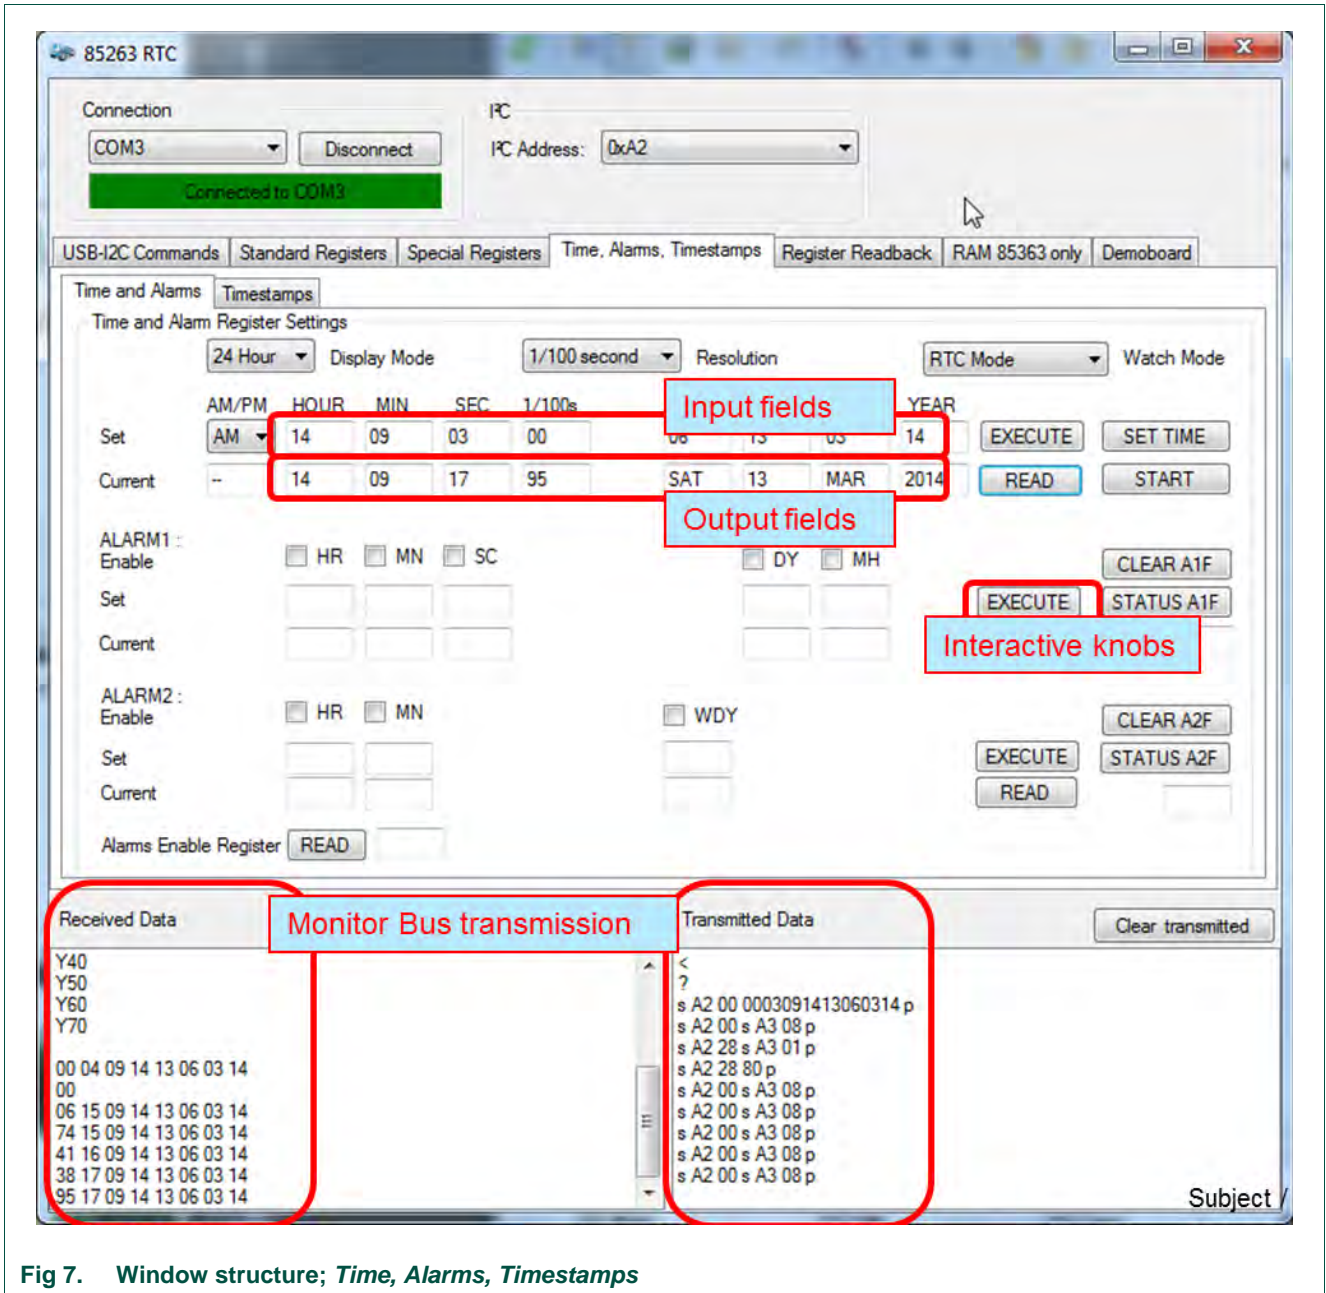
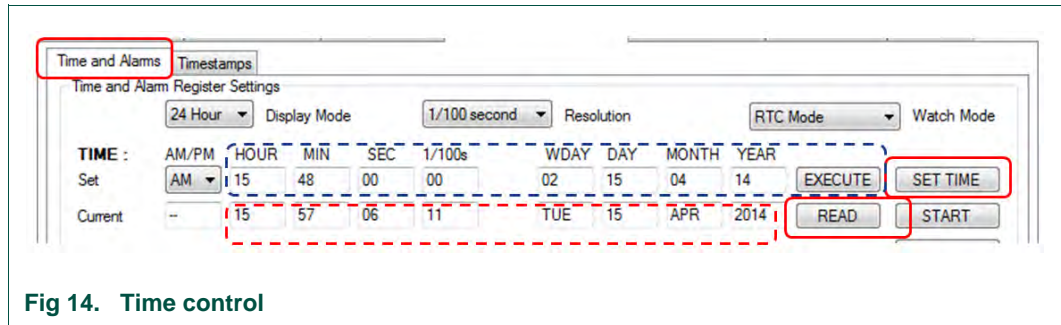

Fig 7. Window structure; Time, Alarms, Timestamps
Fig 14. Time control
The principle for controlling is explained on the window *Time, Alarms, Timestamps* in Fig 7.
3. Set the time and read back to verify that the clock is running (see Fig 7).
- The *SET TIME* programs the actual time based on your PC (see Fig 7 and Fig 14).
- *READ* reads the current time and date of the RTC (see Fig 7 and Fig 14).
- *START* will continuously read the time at about once every second (see Fig 7 and Fig 14).
There are options to change from *24 hour* to *12 hour* mode, activate the *1/100s* resolution and change the RTC from *RTC mode* (clock mode) to *stop watch mode* (see Fig 7 and Fig 14).